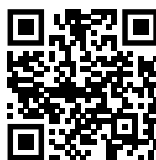

Fig. 120
- ▶ Ouvrez le Liebherr SmartMonitoring Dashboard. (voir Fig. 120) .